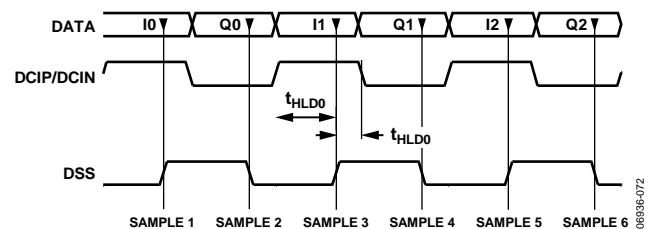

Figure 57. Timing Diagram of Parallel Interface
Before outlining the procedure for determining the delay for SMP (that is, the positioning of DSS with respect to the data signals), it is worthwhile to describe the simplified block diagram of the digital data port. As can be seen in Figure 57, the data signals are sampled on the rising and falling edges of DSS. From there, the data is demultiplexed and retimed before being sent to the DACs.
2. With SMP and SET set to 0, increment the HLD value until the SEEK bit toggles, and then record the HLD value. This measures the hold time as shown in Figure 57.
3. With SMP and HLD set to 0, increment the SET value until the SEEK bit toggles, and then record the SET value. This measures the setup time as shown in Figure 57.